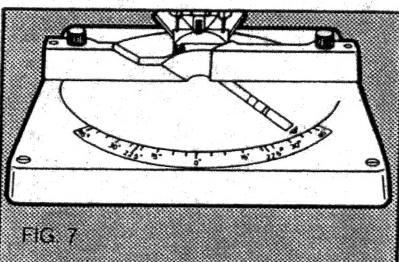

FIG. 7
4. The miter scale is graduated in increments of one degree (1°). The example shown in Figure 7 is 35°.